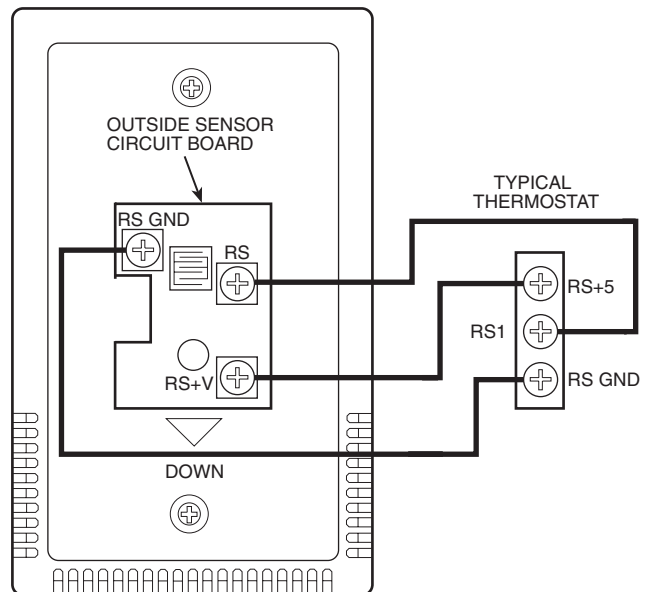

Fig. 2 — Sensor Wiring
1. Connect wiring to sensor and thermostat wiring terminals. Be sure to follow color coding scheme. See Fig. 2. Connect RS GND terminal on remote temperature sensor circuit board to RS GND terminal on thermostat. Connect RS terminal on remote temperature sensor circuit board to RS1 terminal on thermostat. Connect RS+V terminal on remote temperature sensor circuit board to RS+5 terminal on thermostat. Do not